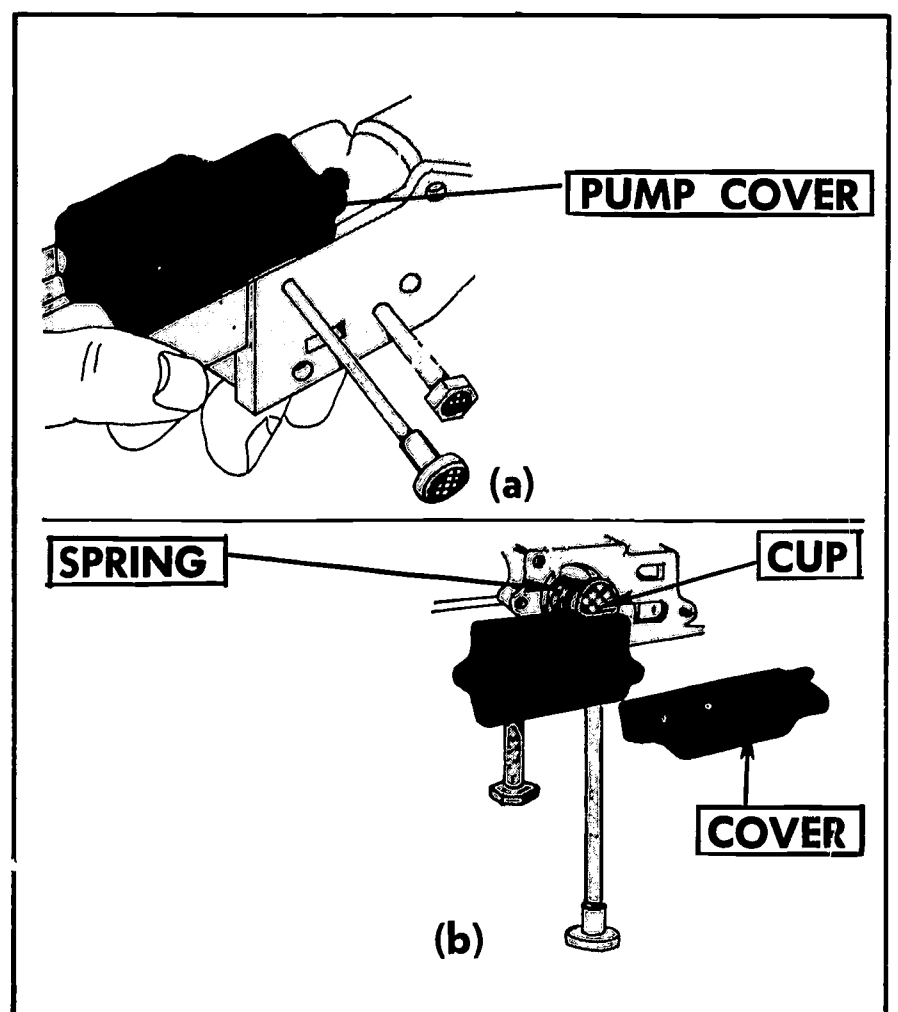

FIGURE 155. Removing the fuel pump assembly on a suction-lift carburetor. (a) Carburetor with diaphragm pump. (b) Pump disassembled.
8. *Remove pump assembly if installed (Figure 155).*